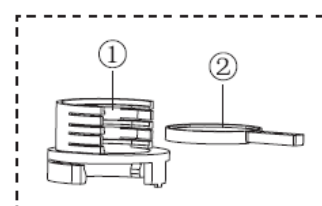

Fig. 20
d) Mount the filter holder(① in Fig.20) to the
e) Insert the analyzer(② in Fig.20) into the filter holder with the symbol side upward.